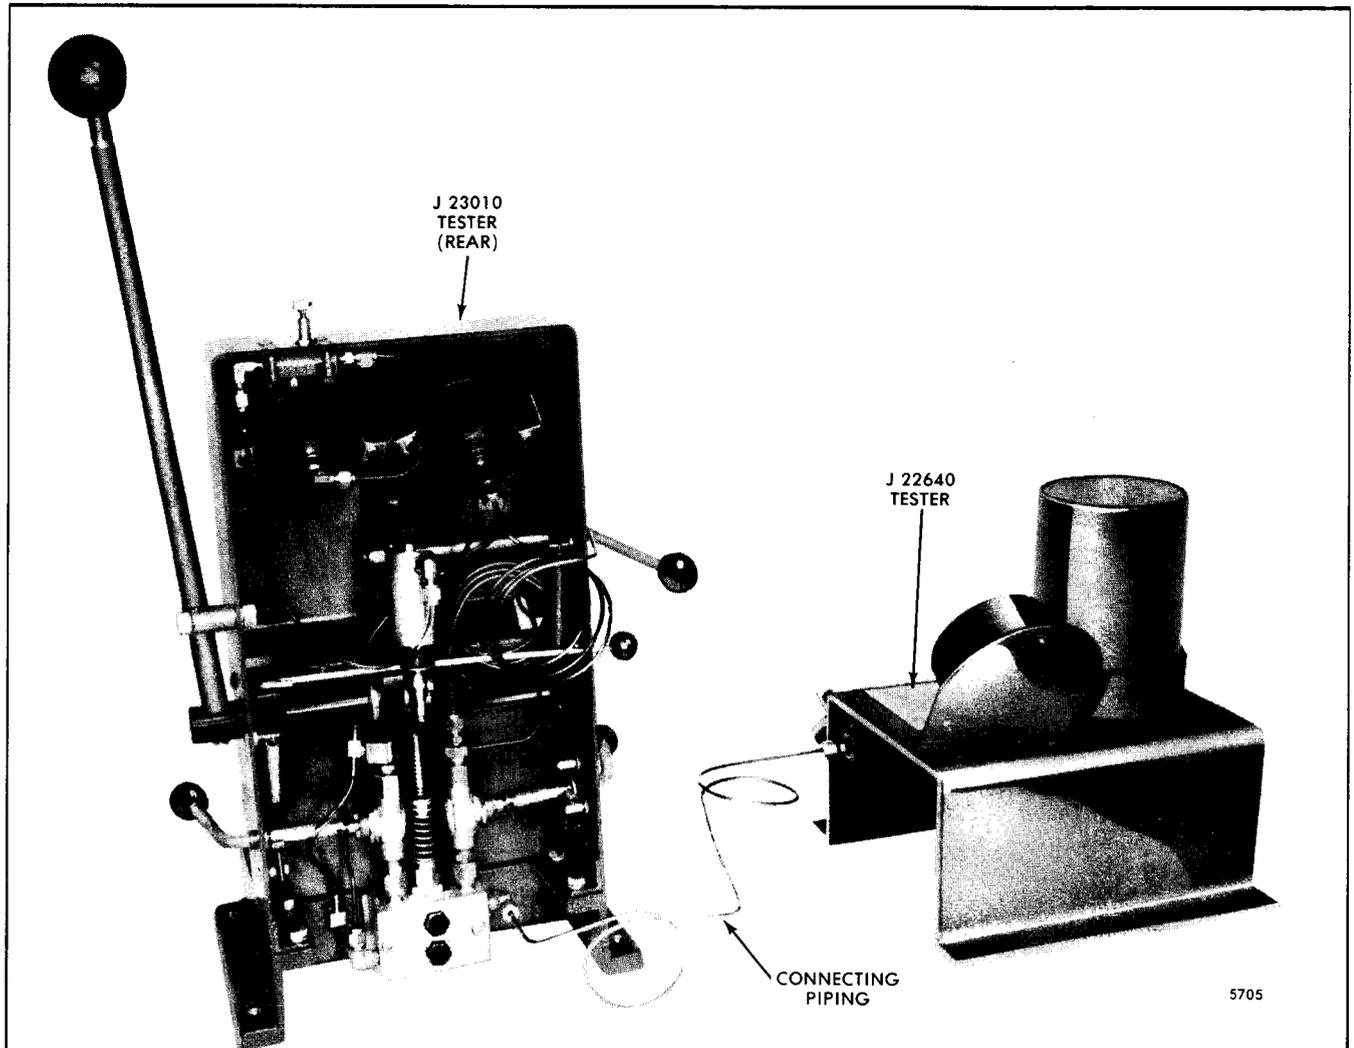

Fig. 17 - Injector Needle Valve Tester J 23010 with Auxiliary Tester J 22640
- Connect the pipe from auxiliary tester J 22640 to the rear of the J 23010 tester at the connection located near the bottom of the tester (Fig. 17).